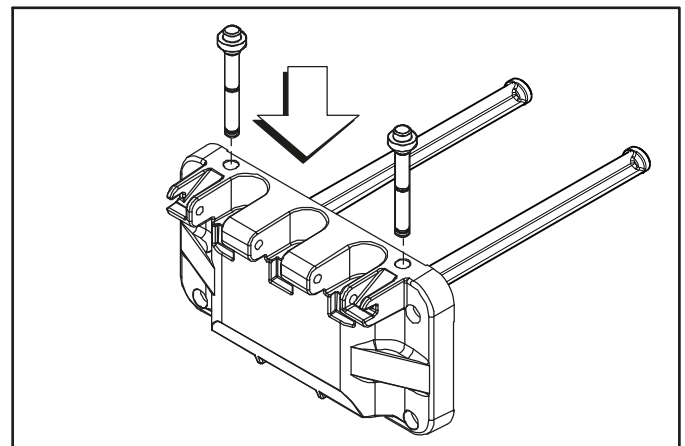

Figure 6-10
16. Insert the prime plugs into the holes in the top of the freezer door, and push down. (See Figure 6-10.)